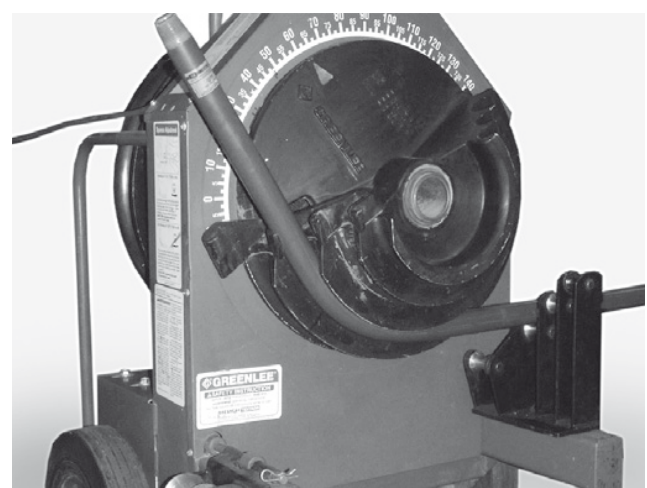

Figure 19: Bender with special shoes required for bending PVC-coated conduit.
a) A bender with shoes made specifically to bend PVC-coated conduit is preferred. Otherwise, for trade sizes 1/2 through 1-1/2, use an electric bender (see Figure 19) with EMT shoes one size larger than the PVC-coated conduit. A hand bender can also be used to bend the smaller trade sizes.